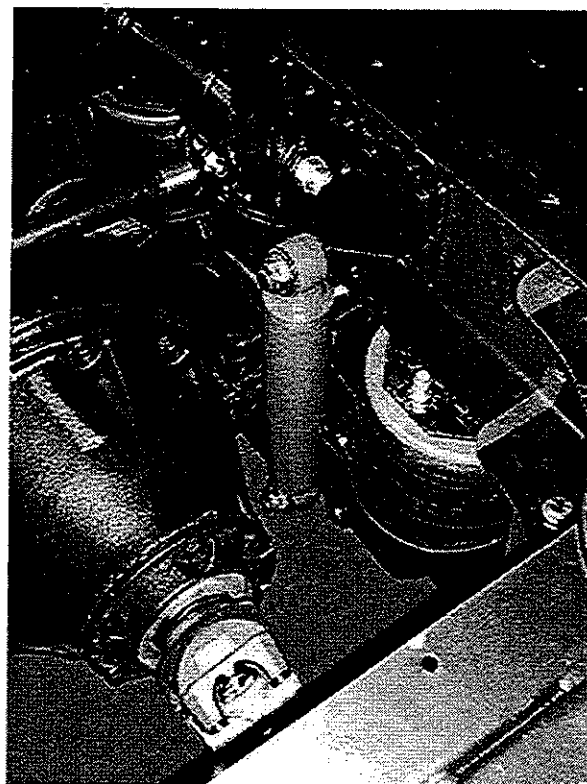

Figure 7—Transverse Torque Rod and Axle Housing
1. Disconnect transverse torque rod from the rear housing. (See Figure 7—Transverse Torque Rod and Axle Housing.)